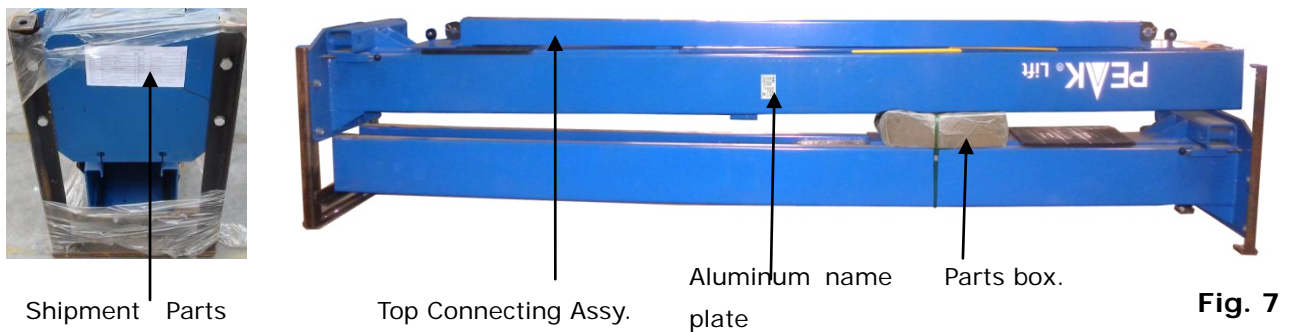

Fig. 7
2. Move the lift aside with a fork lift or hoist, and open the outer packing carefully , take off the parts from upper and inside the column, take out the parts box, check the parts according to the shipment parts list (See Fig. 7).